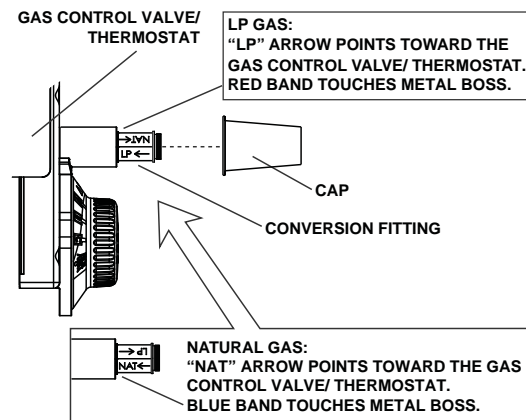

FIGURE 31.
1. Remove the cap (shown in Figure 31), then remove the conversion fitting by turning it counter-clockwise with an adjustable wrench.
- A. If you are converting the unit to use LP gas (propane), verify that the "LP" arrow on the fitting is pointing toward the gas control valve/thermostat. The red band on the fitting should touch the metal boss. See Figure 31.
- B. If you are converting the unit to use natural gas, verify that the "NAT" arrow on the fitting is pointing toward the gas control valve/thermostat. The blue band on the fitting should touch the metal boss. See Figure 31.